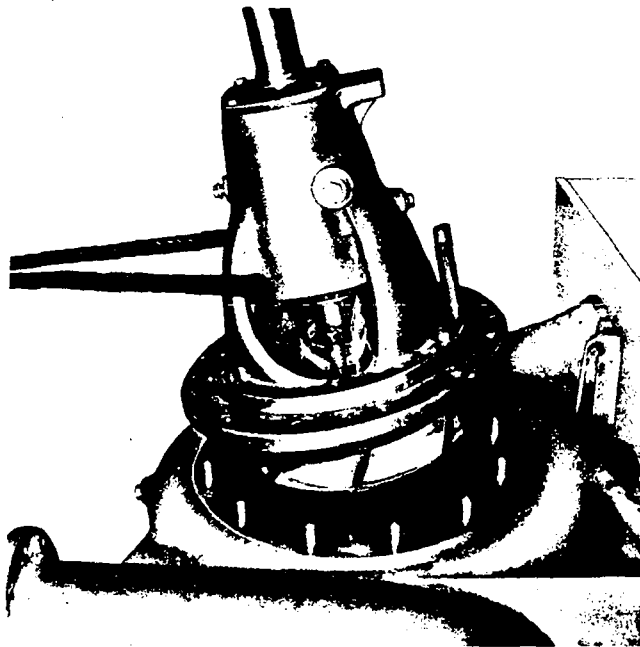

Fig. 17: Removal of bearing bracket
Take out bearing bracket (330) with pressure cover (163) and complete impeller (fig. 17).